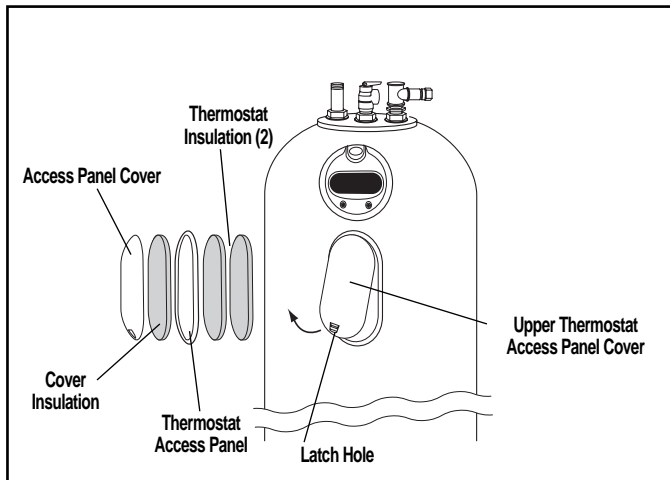
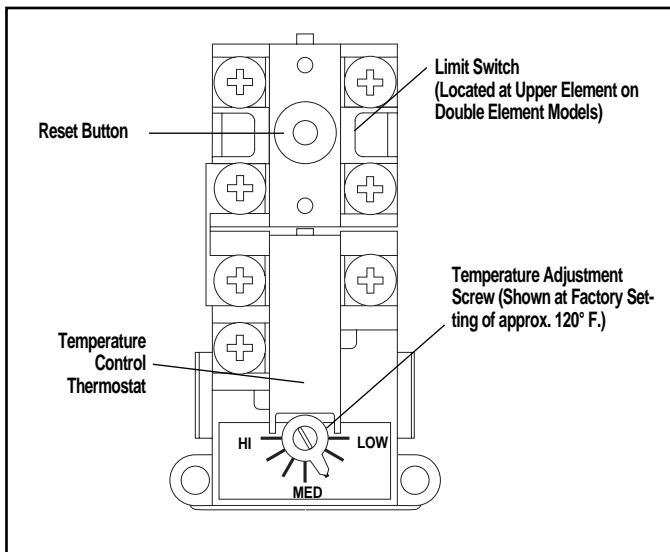

Figure 10 — Removing Upper Thermostat Access panel.
Figure 14 — Upper Thermostat & High Limit Switch
- A. Remove the upper thermostat snap-in access panel cover. Insert finger into latch hole on the bottom of the cover, and push up to release the latch. Then pull forward to remove the cover and insulation. (See figure 10.)
To reset High Limit Switch, **turn off** power to water heater, remove upper jacket access panel and insulation, and the access panel and insulation to expose the Thermostat and High Limit Switch. (Refer to Figure 10.) **The plastic personnel protector SHOULD NOT be removed**. Press the "RESET" button (see Figure 14). Replace insulation and jacket access panel(s) before turning on power to water heater.